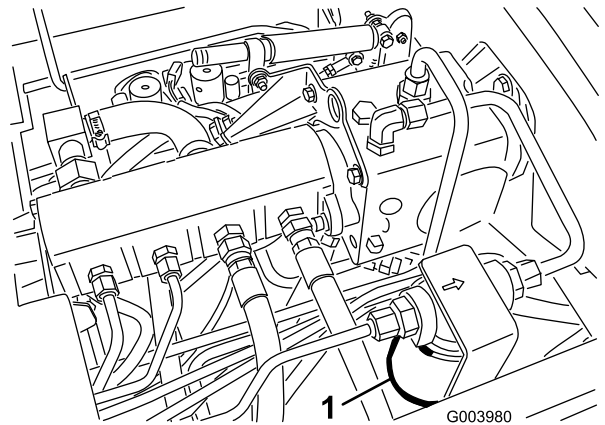
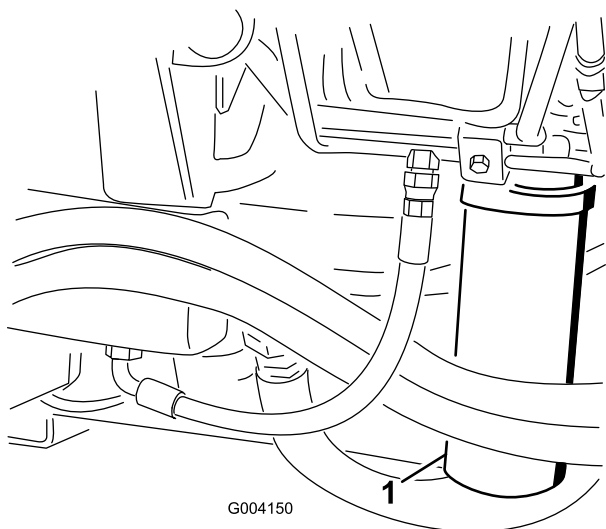

Figure 72
Figure 73
2. Clean the area around the filter mounting area and place a drain pan under filter (Figure 72) and (Figure 73).